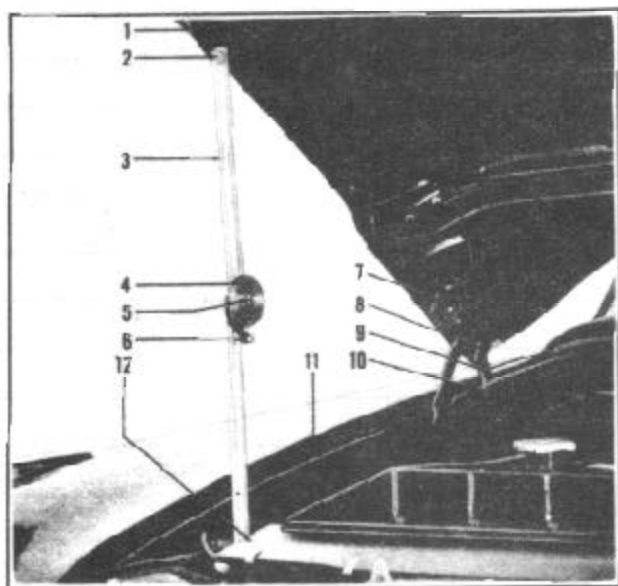

FIGURE 98
2. Remove two hood prop bolts (2), Figure 98, (one on each side). Hood props (3) remain attached to fender side dust shields (11), on models so equipped.
1. Loosen the two bolts, (9 and 10), Figure 98, which attach the hood hinge to the cowl just enough to allow for backward or forward movement.